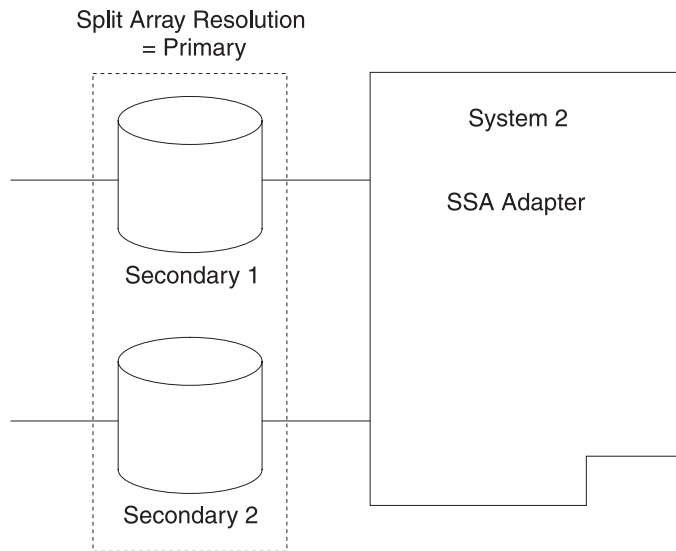

Figure 23. RAID-10 Failure of a Host System and a Primary Disk Drive
**RAID-10 Failure of a Host System and a Primary Disk Drive:** Figure 23 shows system 2 disconnected from system 1. The array is in the Offline state. If you set the Split Array Resolution flag to **Secondary**, the array goes into the Good state.